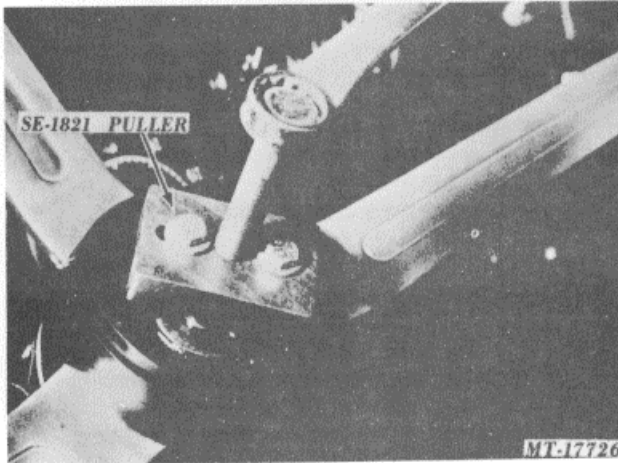

Fig. 3 Steering Wheel Removal Using Puller SE-1821
4. Install SE-1821 puller, two drilled and tapped holes are provided in the steering wheel. Remove as shown in Fig. 3.